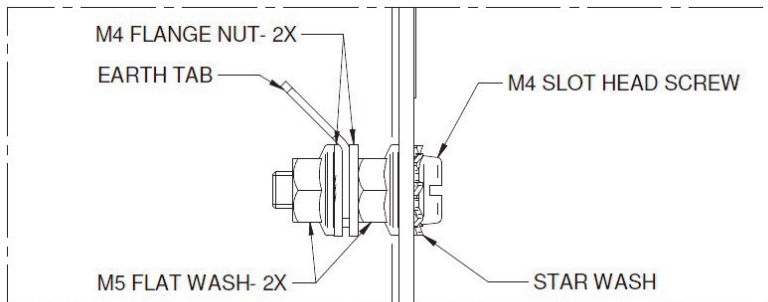

Figure 2. Earth connection installation
4. Fit the 1/4 brass spade terminal using fasteners in the same sequence at the bottom of the pedestal, as shown in Figure 2. Ensure that is done tight (This may have been already done in the factory).
4. Fit the supplier 1/4 brass spade terminal using fasteners in the same sequence at the back of the heater, as shown in Figure 2. Ensure that is done tight (This may have already done in the factory).